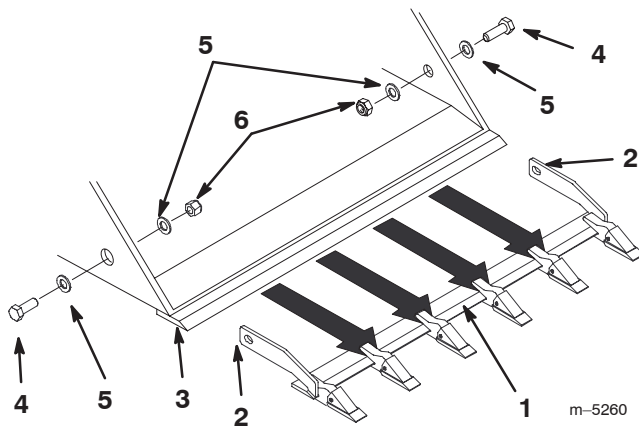

Figure 1
- Slide the tooth bar onto the bucket with the right and left tabs positioned inside the bucket and the cutting edge of the bucket seated into the tooth bar (Fig. 1).
- Secure the tooth bar to the bucket using 2 bolts, 4 washers, and 2 locknuts (Fig. 1).